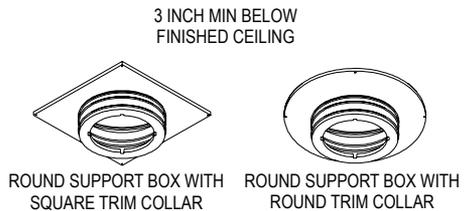
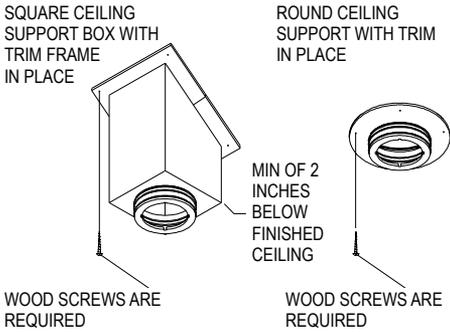
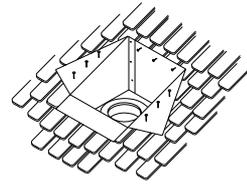

Figure 5
Figure 6
Figure 20
- 3. Install Support Box:** For installation into a flat ceiling, there is the option of the Round Support Box, the Flat Ceiling Support Box, the Square Ceiling Support Box, or the Reduced Clearance Support Box. The Flat Ceiling Support Box is primarily used for Oil Appliances and comes unpainted. For the Square Ceiling Support Box and the Reduced Clearance Support Box, refer to the Square ceiling installation below. The Round Ceiling Support Box has the option of a square or round Trim Collar available (**Fig 5**). The bottom of the Round Support Box must extend at least 3 inches below the finished ceiling.
Level the Support Box and secure it to the framing using at least three 8-penny nails per side (min. of 12 total). Alternatively, you may use 1-1/2" #8 wood screws (min. of 12 total), instead of nails. Next, secure the Trim Collar (round or square) to the framing members using the (4) 1" long, round-head wood screws provided (**Fig 6**).
and the two-piece Trim. The bottom of the square portion of the Support Box must be a minimum of 2-inches lower (round portion is an additional 3 inches lower) than the finished ceiling at the lowest side of the penetration (**Fig 5 & 6**). Level the Support Box and secure it to the framing using at least three (3) 8-penny nails per side (minimum of 12 nails total), or a minimum of (3) #8, 1-1/2" wood screws. Adjust the overlapping "U-shaped" Trim pieces so they cover the Support Box, and secure them to the framing members using the (6) 1-1/4" long, round head wood screws provided (**see Fig 6**).
3. Install Support Box: Slip the Square Support Box or Reduced Clearance Support Box into the framed opening so the square portion projects at least 2 inches below the finished ceiling and rafters (bottom of round portion is 5" below), and extends above the ceiling to framing or decking materials to which it can be nailed. Level the Support Box, and slit the corners to the roofline where they extend beyond it. Bend the flaps (created by the slitting) flush with the roof, and nail the Support Box to the roof or framing with at least three (3) 8-penny nails, or (3) 1-1/2", #8 screws, per side (**Fig 20**). Be sure to keep the Support Box level. Screw the trim sections into the ceiling (Fig 6).